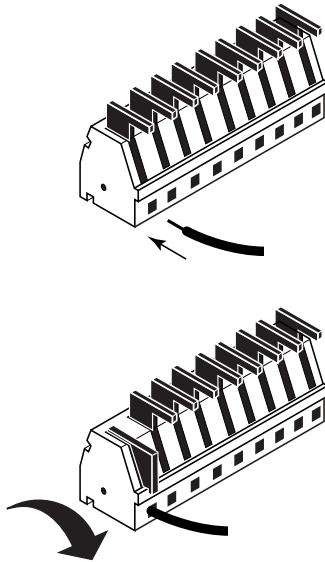

Figure 2. 9-Pin Header Connector
1. Symphony/Symphony-i is provided with either a 6-position or 9-position header connector. Insert wires from the control panel into the Symphony/Symphony-i header connector and secure by placing the header arms in the down position (9-pin connector shown, see Figure 2). When all wires are secured, mount the header on Symphony/Symphony-i by snapping into place.